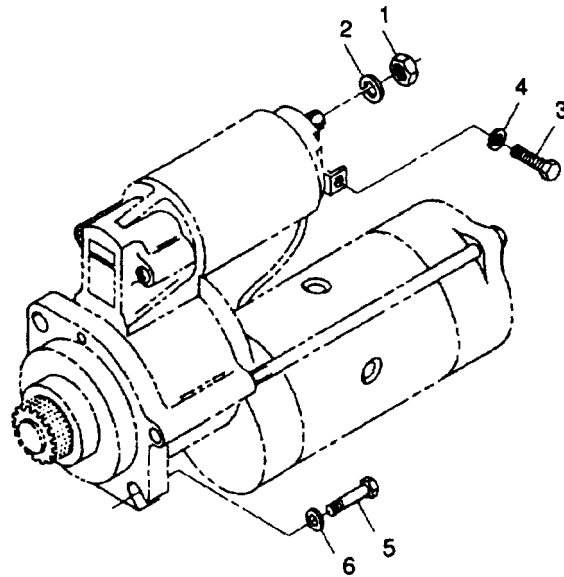

FIGURE 3-21. Starter Connection and Mounting Hardware
- a. Remove nuts (1, FIGURE 3-21), lockwashers (2), capscrew (3), and lockwasher (4). Tag and disconnect all electrical leads. Discard lockwashers.
- b. Support weight of starter and remove two capscrews (5) and washers (6) securing starter. Remove starter.
- b. Position starter in flywheel housing and secure with two capscrews (5, FIGURE 3-21) and washers (6). Tighten capscrews to 30 ft-lbs (40.7 Nm).
- c. Connect wires to starter as tagged during removal using capscrew (3), new lockwasher (4), nuts (1), and new lockwashers (2). Remove tags.